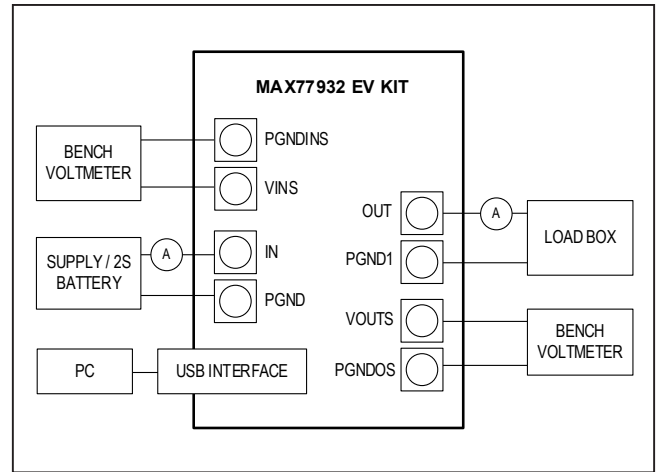

Figure 1. MAX77932 EV Kit Board Connections
- 5) Make connections to the EV kit board as shown in Figure 1. Set the power supply voltage between 5V and 9V and power on. Make sure the load box is in the off state.